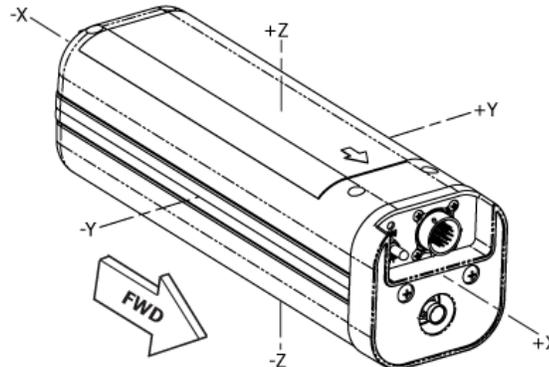

Figure 27 ELT Orthogonal Axes
- 1) ACR Electronics, Inc. recommends installation of the C406-N HM ELT in helicopters. The C406-N HM ELT is equipped with a 5-axis G-switch module in addition to the usual primary G-switch, which is oriented to the direction of flight. See Figure 27 ELT Orthogonal Axes.